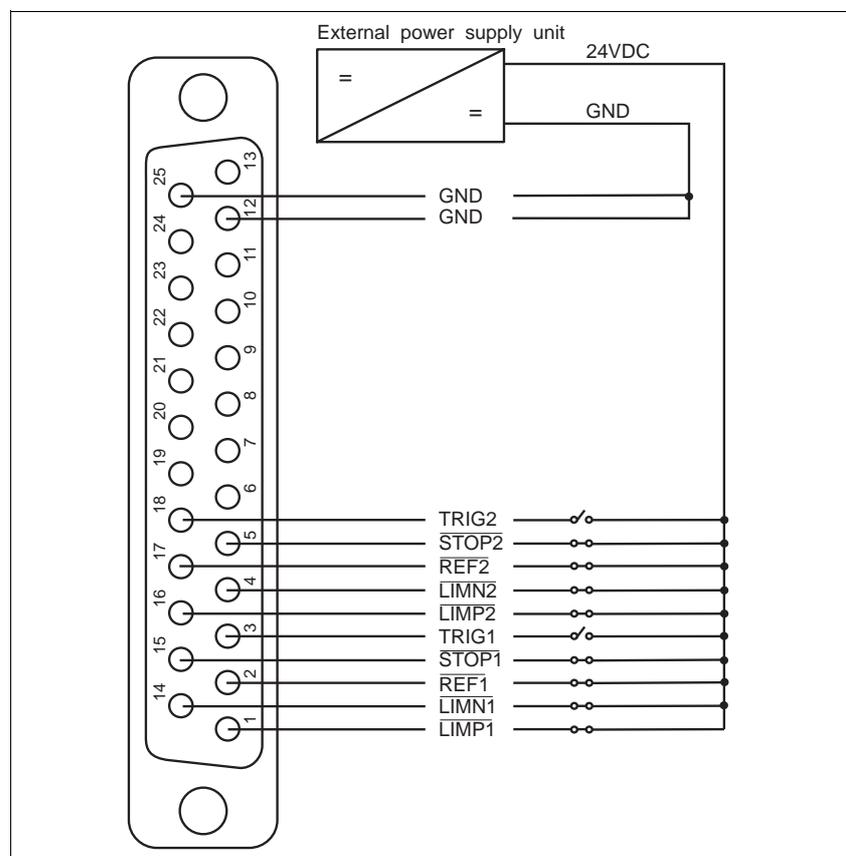

Fig. 2-7 Limit switch connector – device end
3. Insert two hexagon head screws into the connector shell (fig. 2-7).